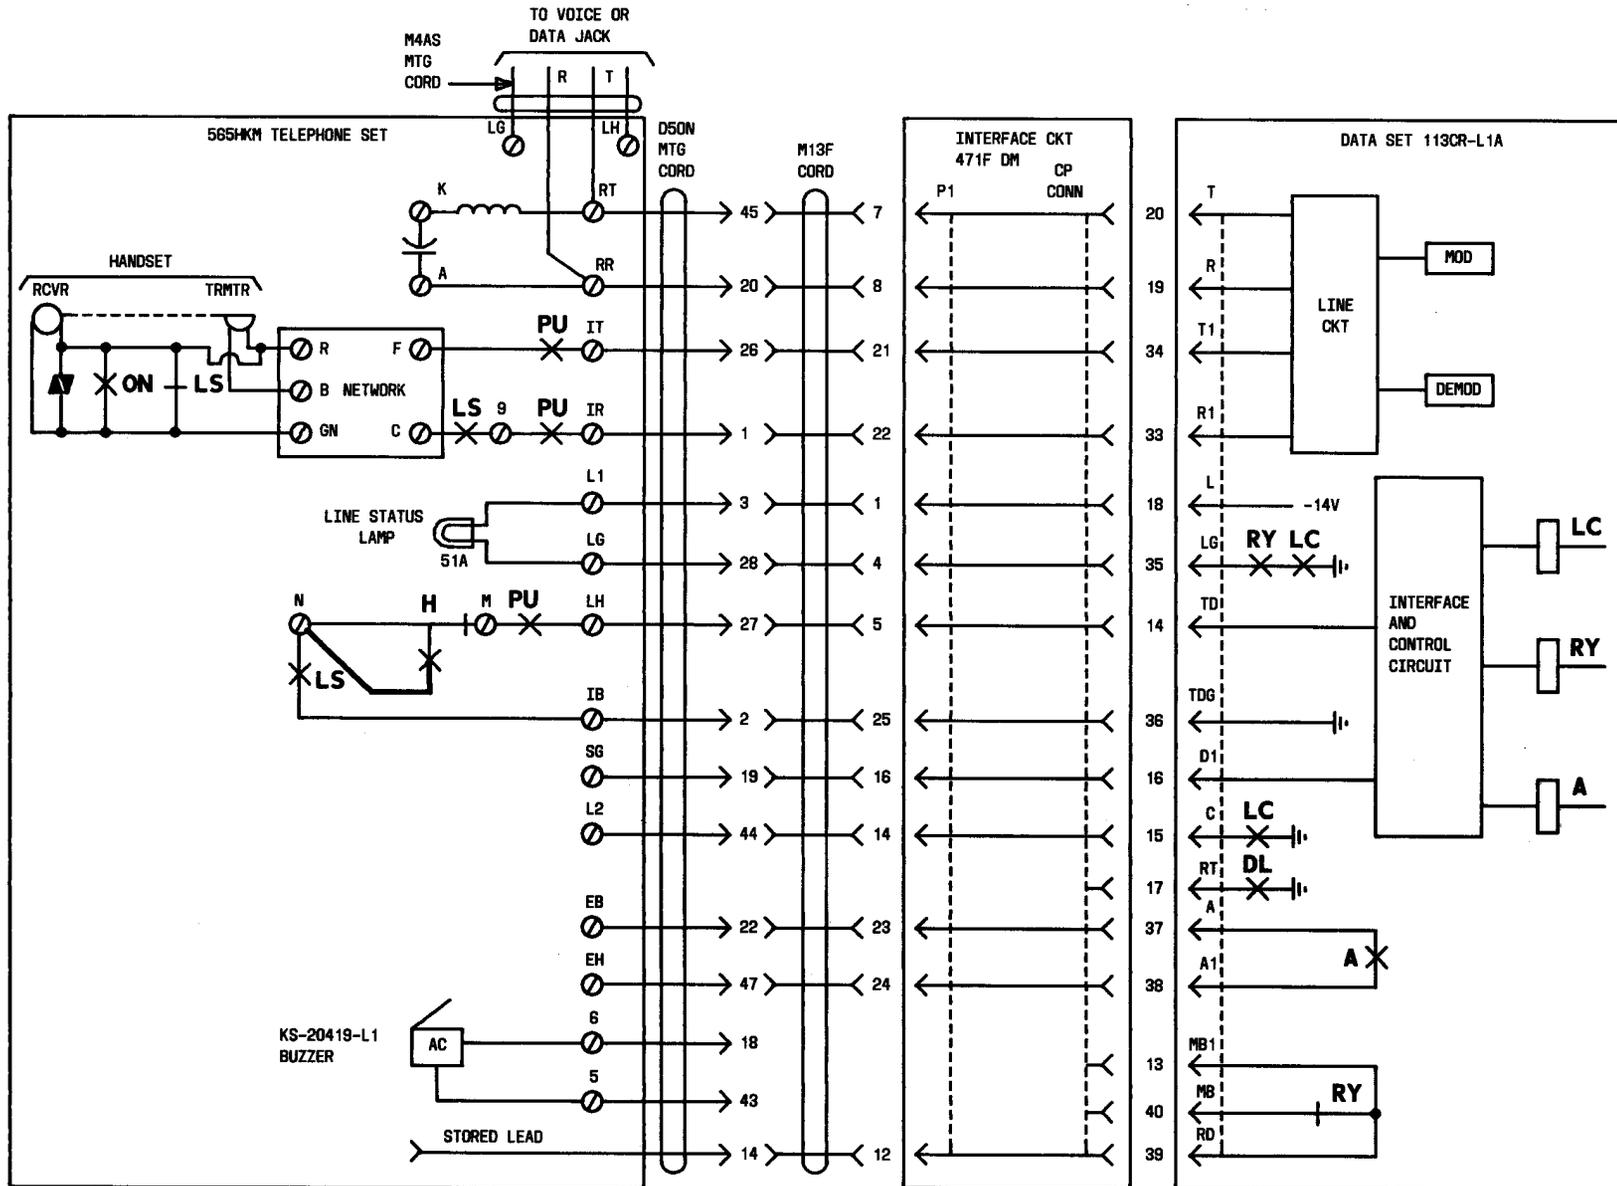

Fig. 3—Interface Between Telephone Set and Data Set Line Control
4.03 Figure 3 shows a simplified diagram of the telephone set, interface, and the data set.